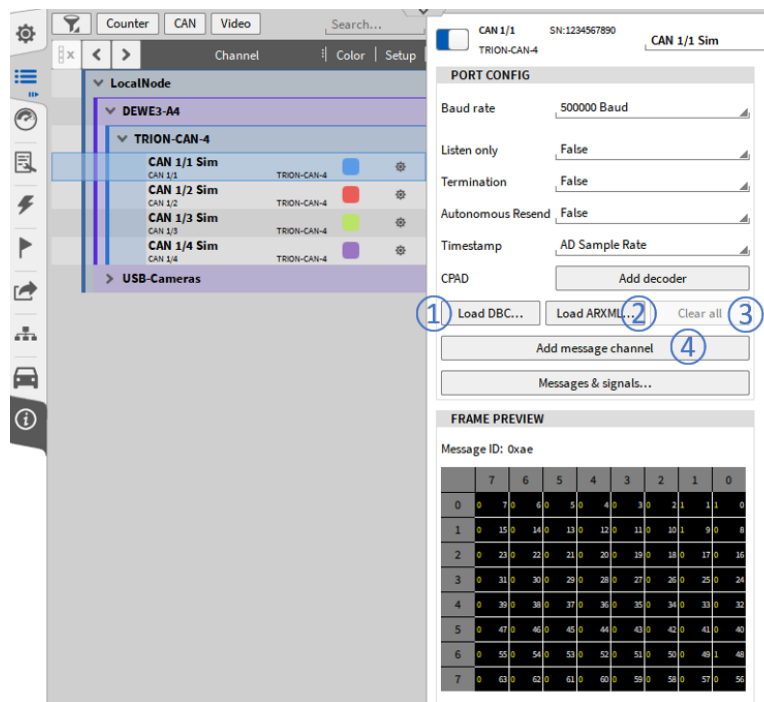

Fig. 7.198: Decoding CAN data
Thus, press *Load DBC...* (see ① in Fig. 7.198) or *Load ARXML...* (see ② in Fig. 7.198).
You can delete all decoded messages and channels by pressing the Clear All button the CAN port configuration (see ③ in Fig. 7.198).
If one or several messages available on the CAN bus should not be defined in the selected dbc- or arxml-file you can manually add them by pressing *Add message channel* (see ④ in Fig. 7.198) and defining the correct settings in the CAN message setup. More details can be found in CAN message setup.